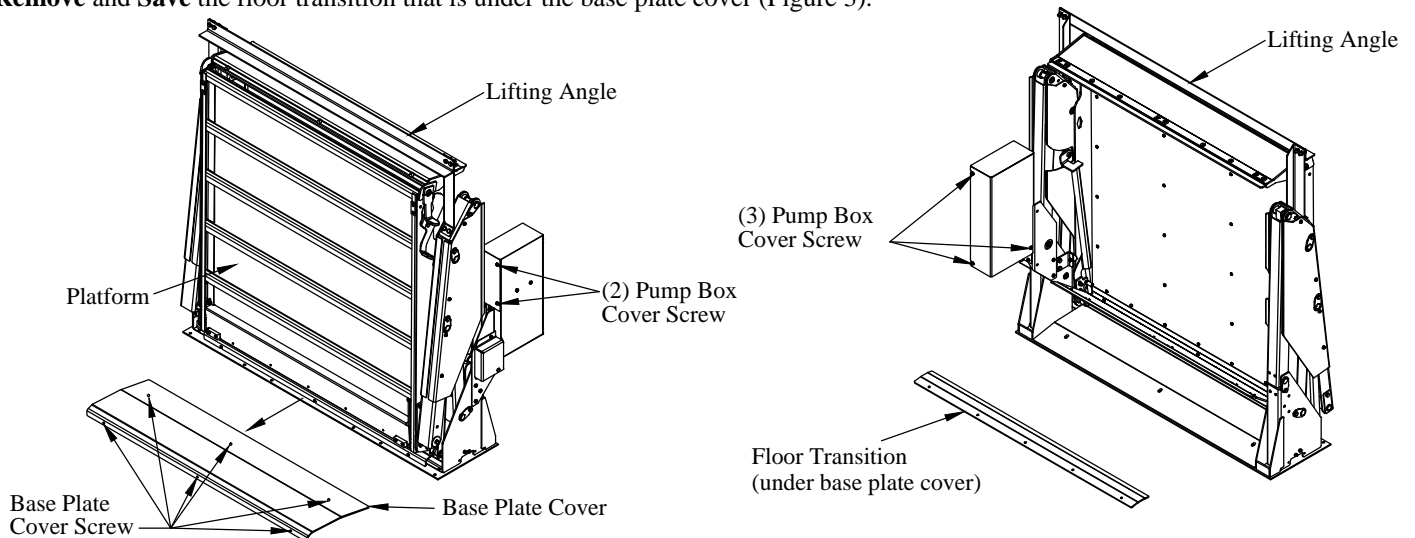

Figure 3: Base plate cover and pump box.
3. **Remove** the pump box cover by removing five (5) screws (Figure 3).
5. **Replace** the pump box cover and screws (Figure 3).
6. **Remove** and **Save** the six (6) screws fastening the base plate cover to the base plate (Figure 3).
7. **Remove** and **Save** base plate cover (Figure 3).
8. **Remove** and **Save** the floor transition that is under the base plate cover (Figure 3).
10. **Lift** the liftgate by the lifting angle with a fork truck or hoist (Figure 3).